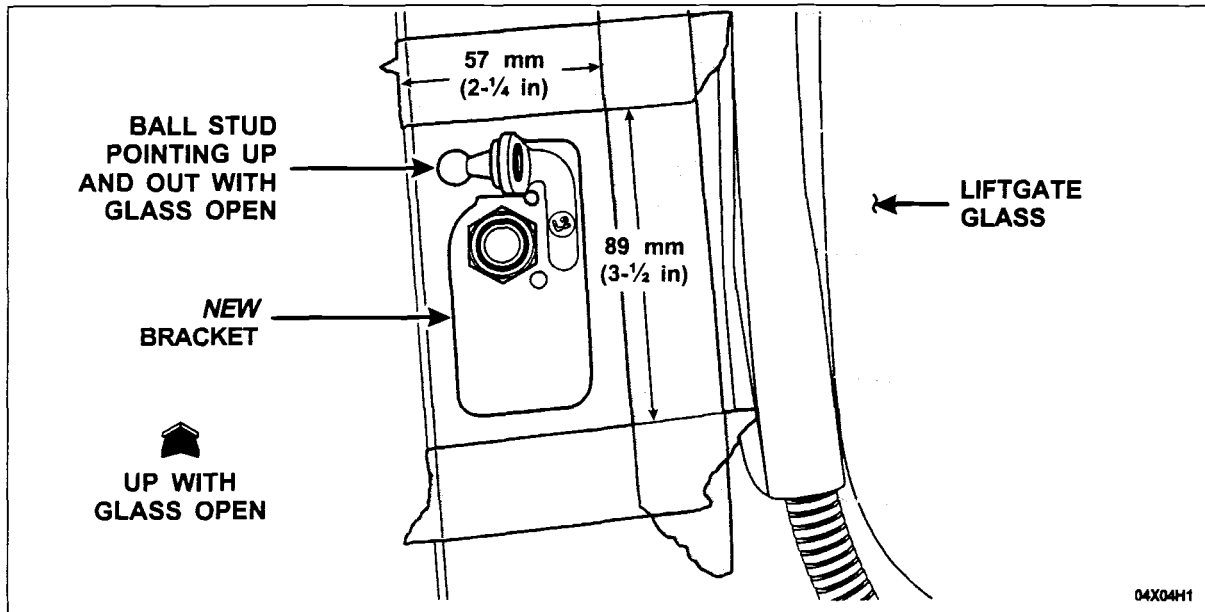

FIGURE 8
3. Hold the **new** bracket in position on the glass with the ball stud pointing UP and OUT (with the liftgate glass open). Mark the area around the bracket using masking tape or vinyl tape. Leave a space approximately 7 mm ($\frac{1}{4}$ in) between the edge of the bracket and the tape. The taped-off area should be approximately 57-mm ($2\frac{1}{4}$ in) wide and 89-mm ($3\frac{1}{2}$ in) high. See Figure 8 for proper placement and dimensions. After the tape is applied, remove the bracket. The tape will be used as an alignment guide, therefore, keep the tape in place until completing the final bracket alignment.